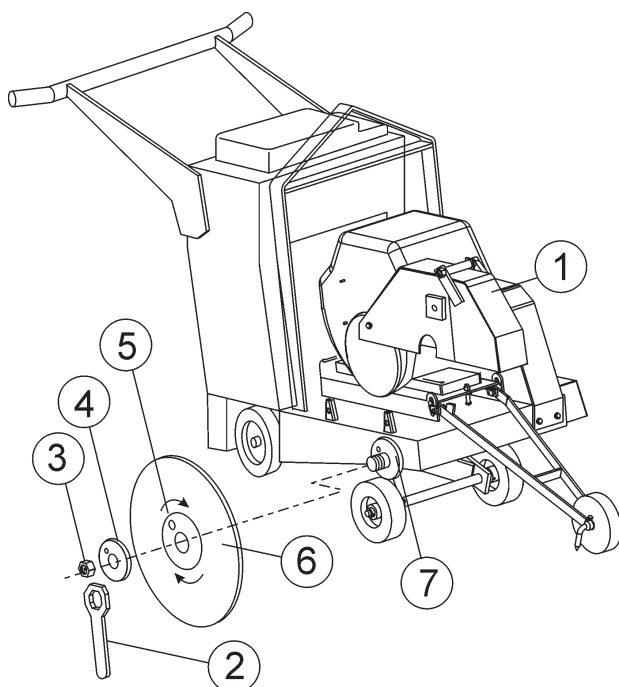

Figure 12. Diamond Blade Placement
- Reference Figure 12 (Diamond Blade Placement) when removing or installing the diamond blade.
2. **Blade Nut Wrench** – Remove the blade nut wrench (3) from the tool holder and unscrew the blade shaft nut (right-side). This nut *loosens clockwise* and *tightens counterclockwise*.
3. **Blade Nut** – Remove the blade nut (4). For reassembly, **DO NOT** over tighten the blade nut against the outer flange. Tighten blade nut approximately 45-50 ft-lbs/62-69 N/m.
4. **Outside Blade Flange (Collar)** – Ensure that the flange face is clean and free of debris and is placed flush against the diamond blade (7). Check that the drive pin goes through the blade pin hole (6) and seats properly into the inner flange (8).